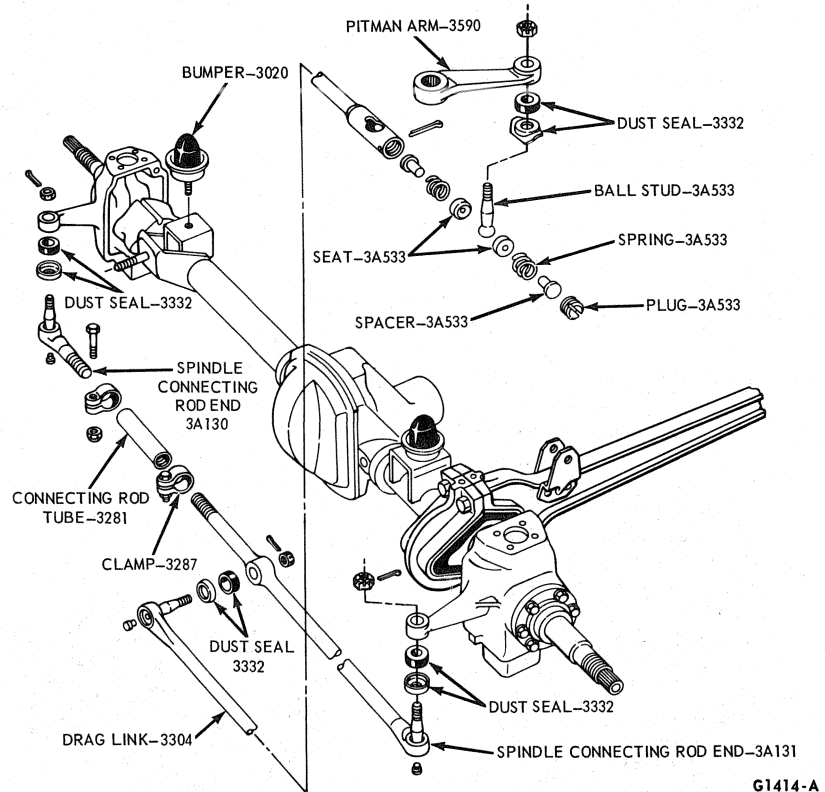

FIG. 6—Steering Linkage Disassembled
2. Disconnect the drag link from the steering gear Pitman arm (Fig. 6) and remove the drag link from the vehicle.
1. Position new dust seals (Fig. 6) on the drag link ball stud and position the drag link to the Pitman arm. Install the attaching nut and torque it to specification. Continue to tighten the nut until the nut castellations are aligned with the hole in the ball stud and install the cotter pin.
1. Position the connecting rod ends in a vise and loosen the connecting rod tube clamps (Fig. 6).
6. Position new dust seals (Fig. 6) on the left spindle connecting rod end and position the end to the left spindle arm.
9. Position new seals (Fig. 6) on the drag link ball stud and position the drag link to the spindle connecting rod end. Install the attaching nut and torque it to specification. Continue to tighten the nut until the nut castellations are aligned with the hole in the ball stud and install the cotter pin.